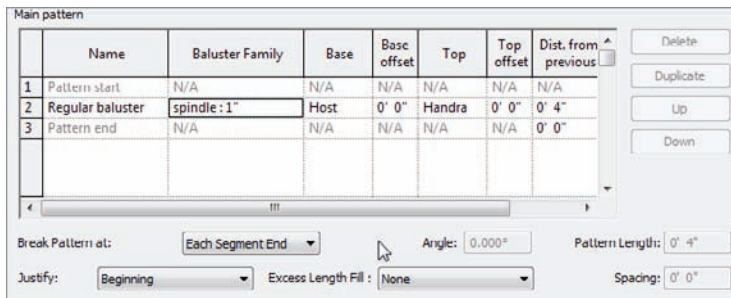

FIGURE 10.60 Adding the spindle to the Main Pattern
13. In the Main Pattern area, change Baluster Family to spindle 1" (see Figure 10.60).